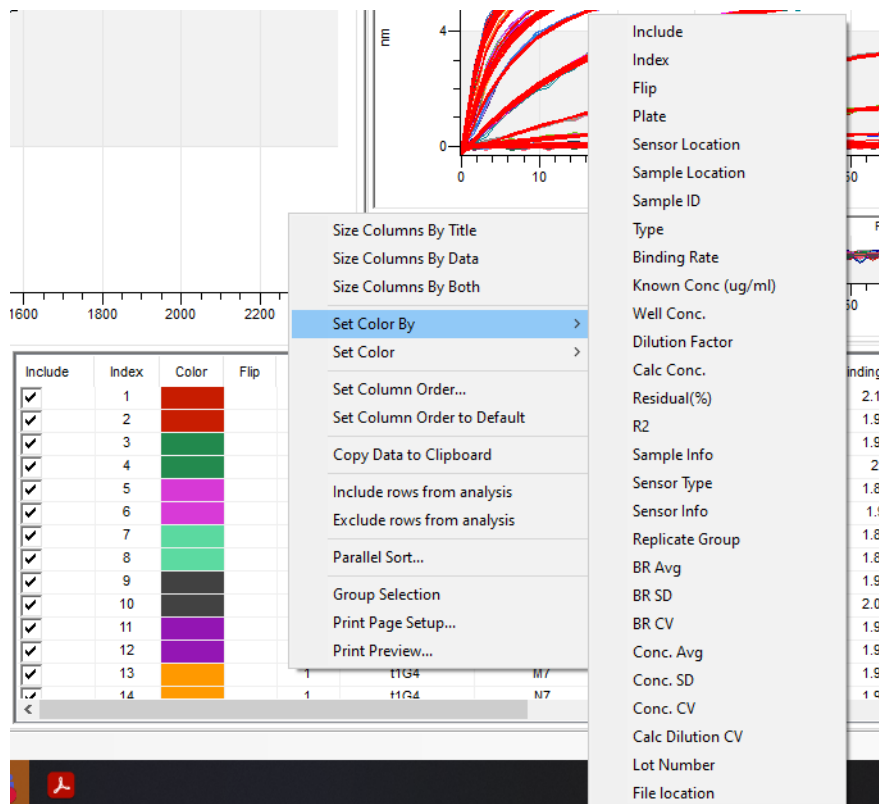

Figure 10-40: Set Color By
- **Set Color By** - Lets you color-code data by a table column variable (Figure 10-40). Once you select a variable, the binding curve and table row colors automatically updates.